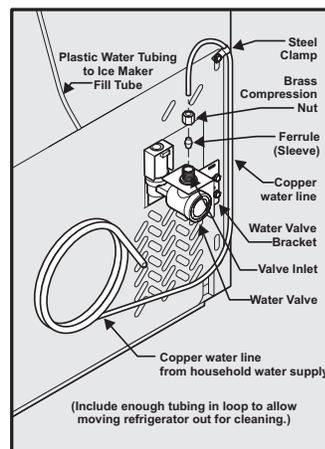

Figure 1
- 4 **If you use copper tubing** - Slide brass compression nut, then ferrule (sleeve) onto water supply line. Push water supply line into water valve inlet as far as it will go (1/4 inch/6.4 mm). Slide ferrule (sleeve) into valve inlet and finger tighten compression nut onto valve. Tighten another half turn with a wrench; **DO NOT** over tighten. See Figure 1.